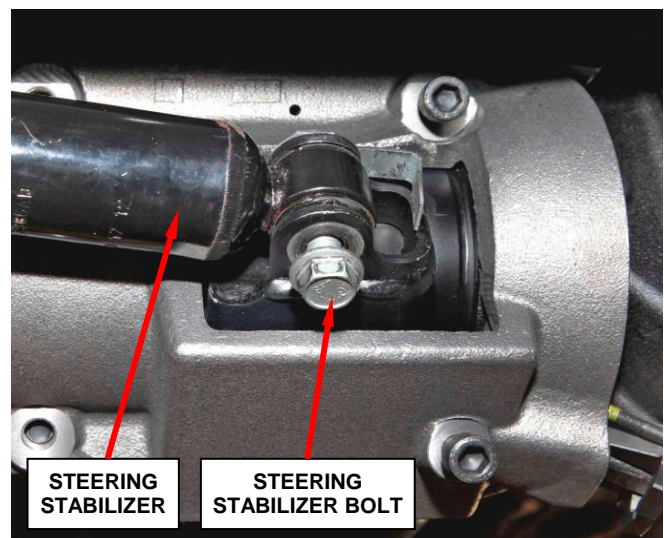

Figure 19 – Steering Stabilizer Retaining Bolt
n. Tighten the steering stabilizer retaining bolt at the axle bracket to 86 ft. lbs. (117 N·m) (Figure 19).